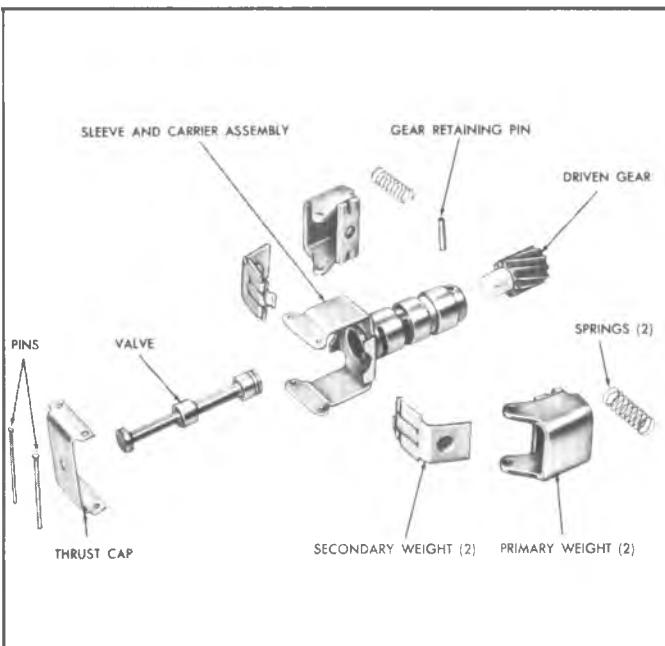

Fig. 93M--Governor Assembly--Exploded View Typical
- Cut off one end of each governor weight pin and remove pins, governor thrust cap, governor weights, and springs. Governor weights are interchangeable from side to side and need not be identified (fig. 93M).